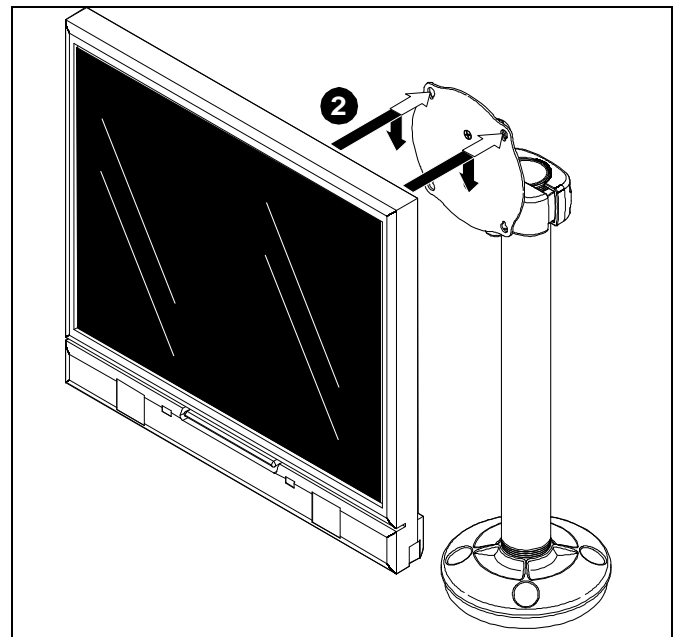

Figure 6
2. Align two screws in display back with upper teardrop mounting holes in mounting plate and lower display until screws are seated in lower area of teardrop mounting holes. (See Figure 6)